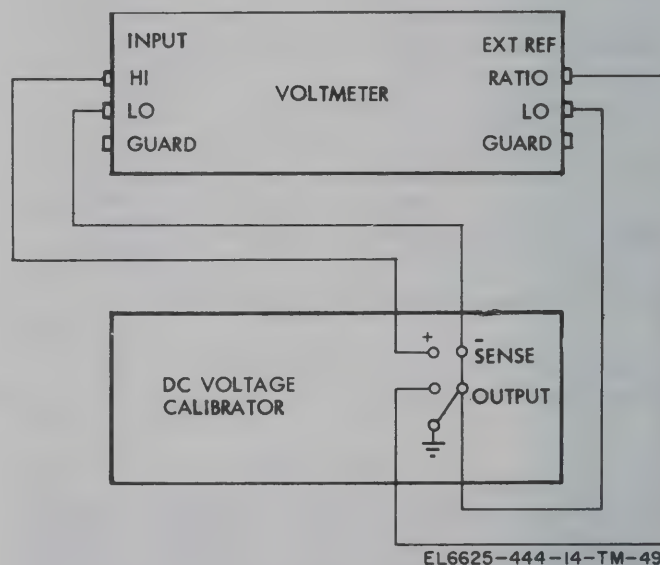

Figure 6-25. Ratio check equipment connections.
(5) Repeat step (4) with negative input voltages. The readout must be the same as for positive inputs, except that the polarity indication will be negative (-).
(6) Apply zero volts to the INPUT terminals and depress the AUTO RANGE switch. The digital readout shall be  $00.0000 \pm .0001$ .
(7) Apply +1000.00 volts dc to the INPUT terminals. The voltmeter shall range automatically and the digital readout shall be  $+1000.00 \pm .10$ .
c. *Ratio Accuracy Checks.* Connect equipment as shown in figure 6-25 and set the controls as follows:
(7) Connect equipment as shown in figure 6-25.
(8) Set dc voltage calibrator output to 50.000V, observing that the digital readout is  $+11.9999\%$ .
(9) Select 100V range, observing that the digital readout is  $100.00\% \pm 0.001$ . Adjust